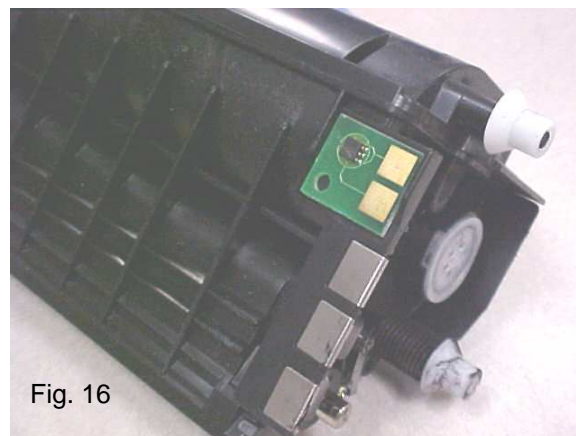

Fig. 16
16. After reassembling the toner cartridge, you will need to change the used OEM chip with a new aftermarket chip. The chip is located on the underside of the cartridge. Simply pry off the OEM chip with a small flat-head screwdriver. To install the replacement chip, pull off the adhesive backing on the rear of the chip and place the chip on the toner cartridge (Fig. 16).